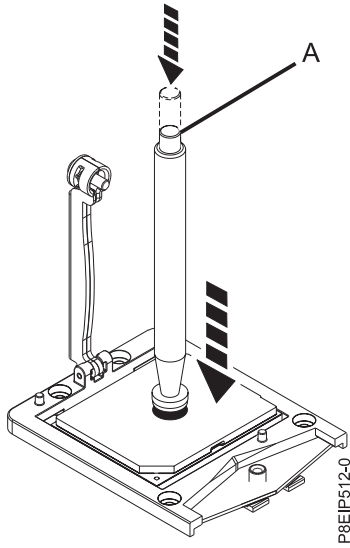

Figure 82. Lowering the removal tool onto the system processor module
3. Lower the vacuum pen tool onto the system processor module to install. Fully press the top of the pen (A) and hold the pen in the center of the system processor module as shown in Figure 82 on page 67. Release the top of the pen to fasten the pen onto the system processor module.